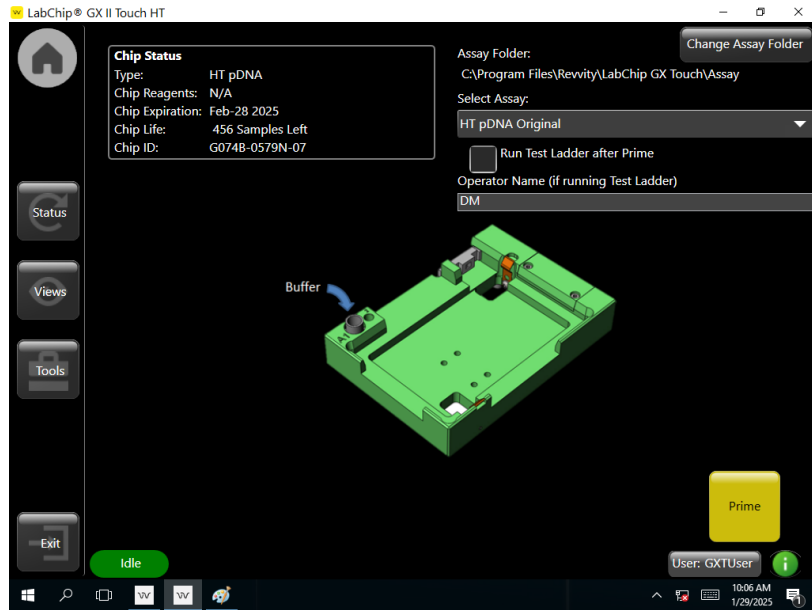
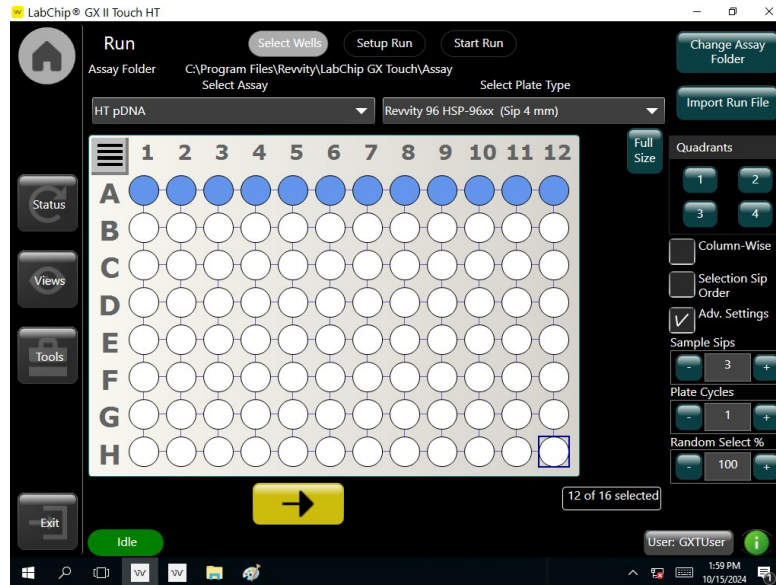

Figure 7. Chip priming screen.
Figure 8. Selecting wells.
- 1 Touch the *Run* button (see Figure 7).
- 2 Select the appropriate assay type (see Figure 7), plate name, well pattern, and whether to read wells in columns or rows. Select number of times each well is sampled under *Adv. Settings* (Figure 8). Touch the yellow arrow button.